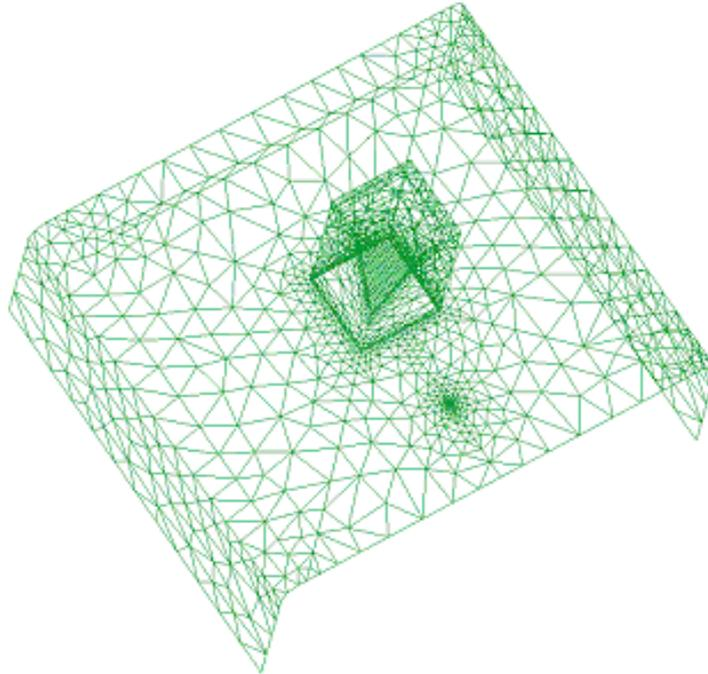

Figure 8. Mesh with a concentration of elements on a surface.
- 5 . Another window appears in which you can enter the maximum element size. Leave the default value unaltered and click **OK**. This results in a high concentration of elements on the chosen surface; due to the value selected (0.5) (see Figure 8).